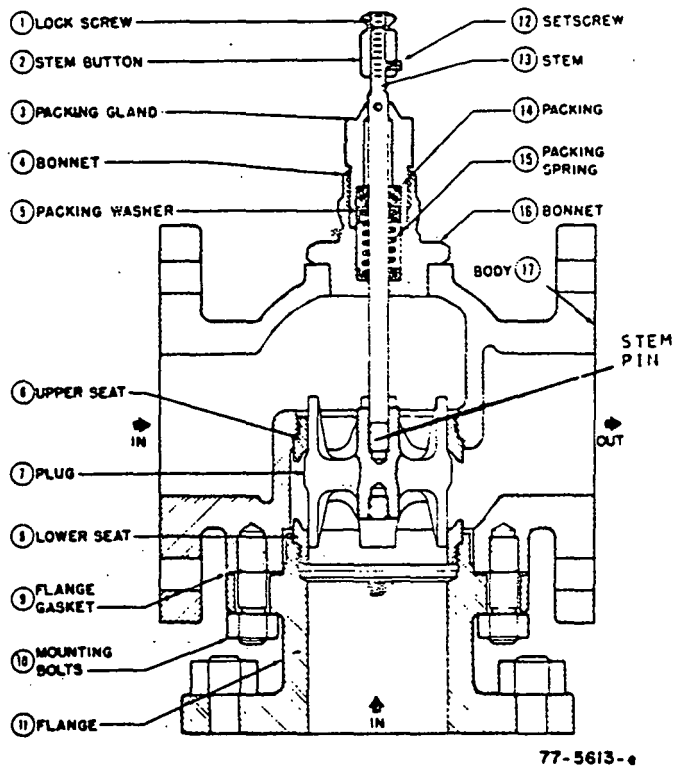

Fig. 5—Cutaway of Typical V5013A Flanged Type Body.
e. Old 3-Way Flanged Valves (V5013A) – The bonnet may be removed with the valve in line but the stem and plug assembly cannot be removed until the flange bolts are removed from both side ports and the bottom flange, and the lower seat ring is detached from valve body by removing the mounting bolts (Fig. 5).